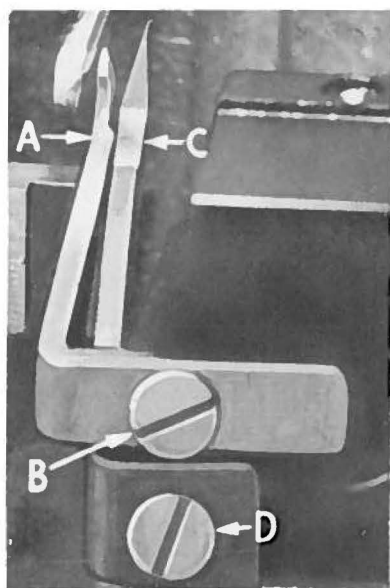

Fig. 5
Set rear needle guard as high as possible (A, Fig. 5) without interfering with either lower looper or movement of lower knife holder, but still in position to deflect needle forward .002 to .004 inch. Screw (B) is used to set the rear needle guard. Make sure there is no interference between the rear needle guard and lower looper.
Assemble front needle guard (C, Fig. 5). When lower looper is springing needle off back guard, set the front needle guard as close as possible to needles without touching. Screw (D) is used to adjust and set front needle guard. After this setting, make sure there is no interference between the needle guards and differential feed dog.